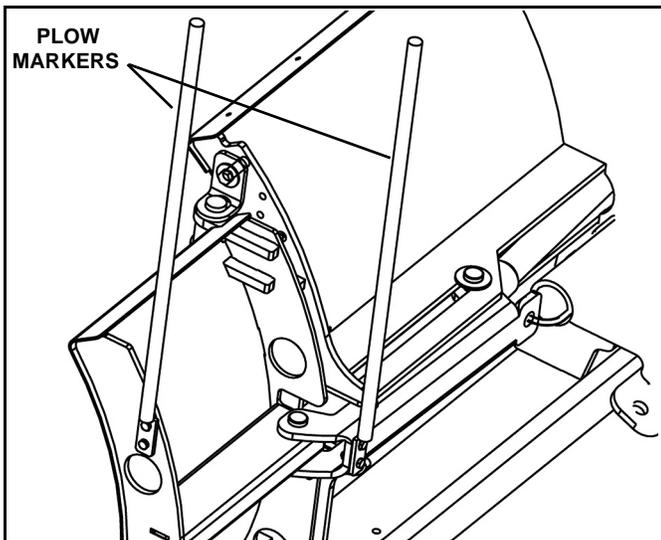

Figure 1-10
7. Attach a plow marker to each wing and wing link as shown and secure using 5/16 x1" cap screws and locknuts. (See Figure 1-10)